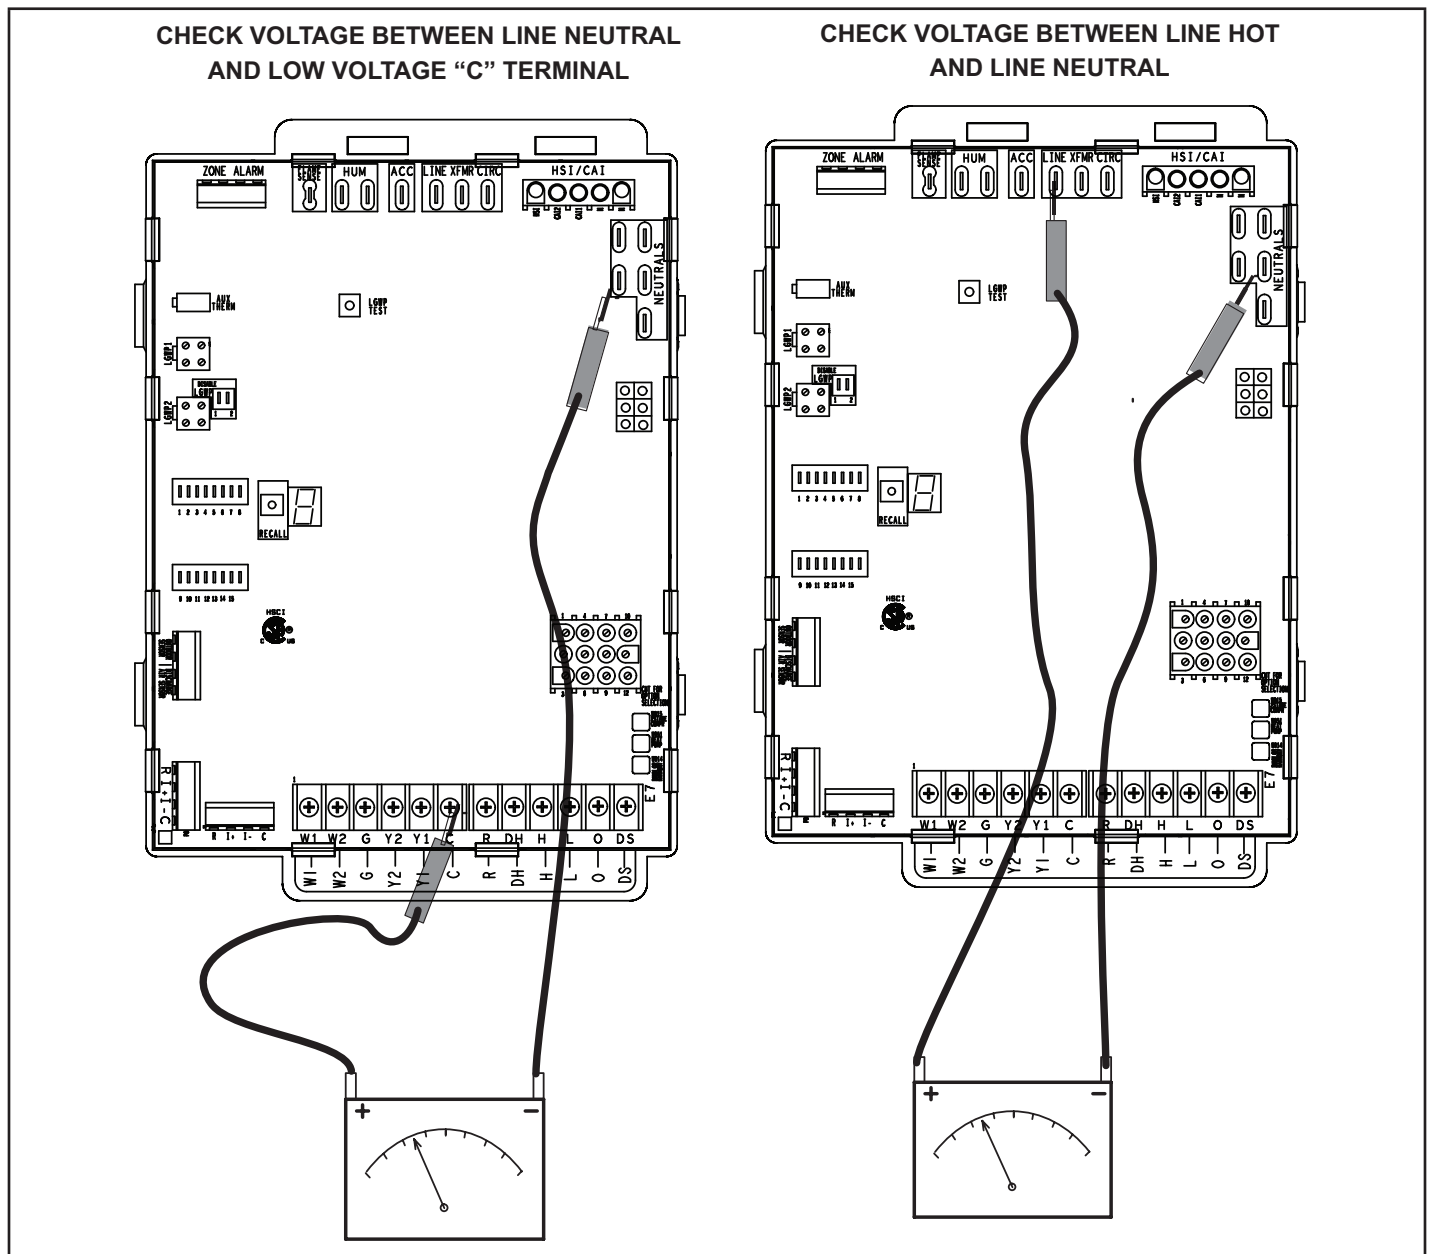

FIGURE 53
- 1 - Measure the AC voltage between Line Neutral (spade terminals) and "C" terminal (low voltage terminal block) on the integrated control. See FIGURE 53. A wide variation in the voltage between Line Neutral and "C" as a function of load indicates a poor or partial ground. Compare the readings to TABLE 34. If the readings exceed the maximum shown in table 1, make repairs before operating the furnace..
- 2 - In addition, measure the AC voltage from Line Hot to Line Neutral (spade terminals) on the integrated control. See FIGURE 53. This voltage should be in the range of 97 to 132 Vac.